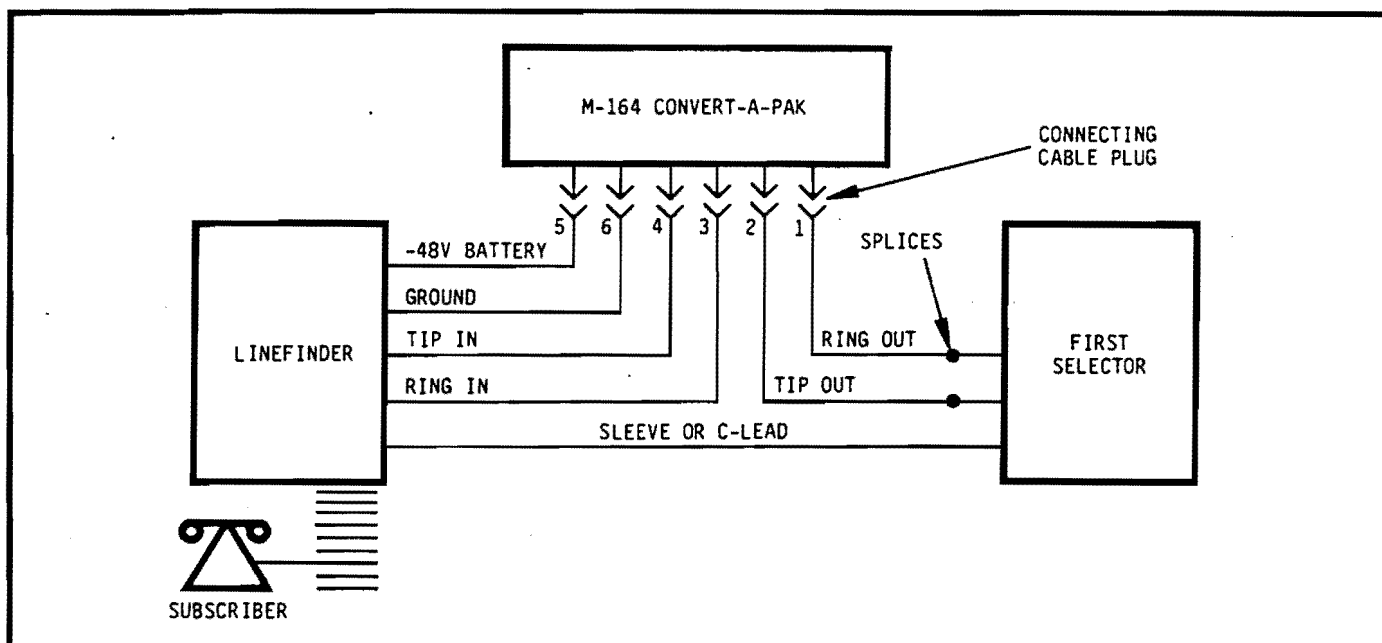

Figure 2 System Connections
2.02 Packaged to mount on the back of a switch rack, the M-164 does not require additional floor space. Installation requires connecting only Tip and Ring pair leads and battery and ground leads (see Figure 2). Line split does not occur until the signal has been verified as a valid digit and has ended; this avoids having the line split by
4.01 Connected in series between the linefinder and the first selector (Figure 2), the M-164 receives incoming DTMF signals from the linefinder and converts them into equivalent trains of dial pulses which step the forward equipment.